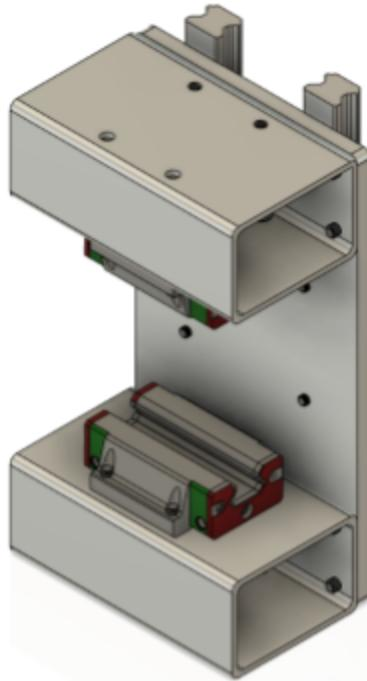

Figure 9.6
31. Mount the HGW20 block to the inside faces of top and bottom beams using the M6x20mm button head bolts as shown in Figure 9.6 and 9.7.